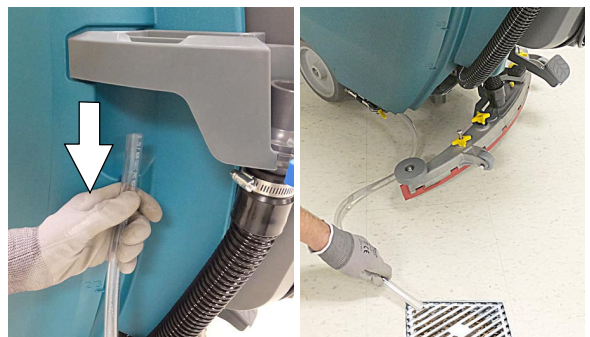

FIG. 52
2. To drain remaining water from solution tank, pull the solution hose from the accessory rail (Figure 52).